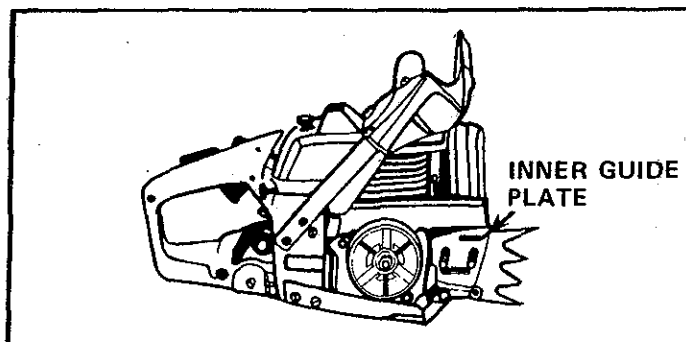

Figure 8
1. Install the Inner Guide Plate over the bar mounting studs. Figure 8 .